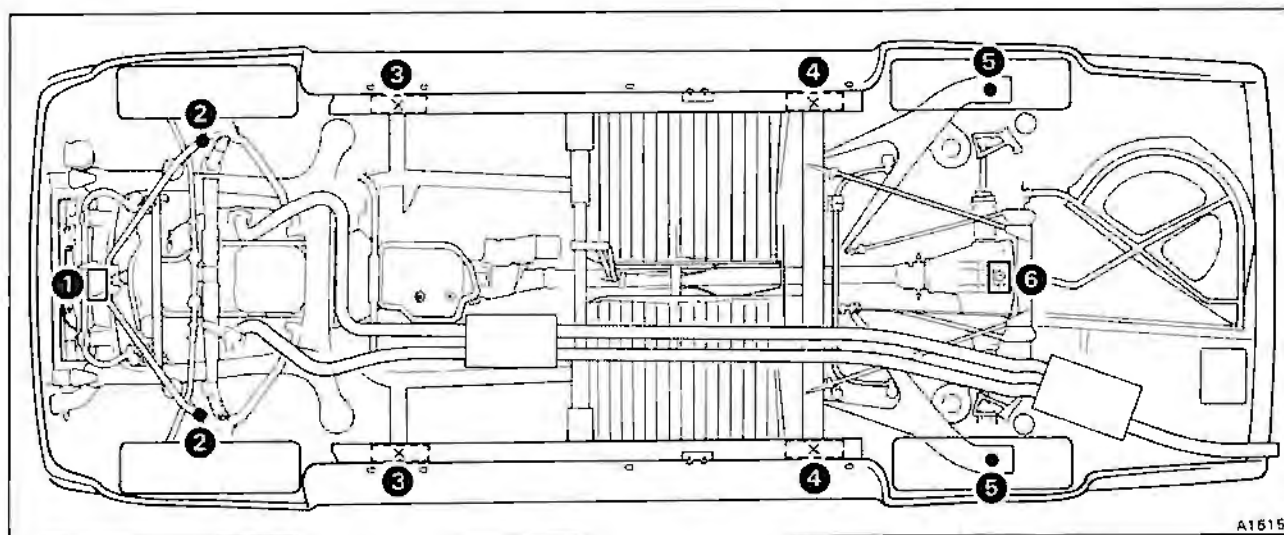

Fig. A8-1 Car jacking positions and support locations
To jack up the front of the car, position a trolley jack under the front pivot mounting for the lower triangle levers on the sub-frame (see fig. A8-1, item 1).
Alternatively, jack up the car using one of the two front jacking points situated on the car underbody (see fig. A8-1, item 3), utilizing the car jack.